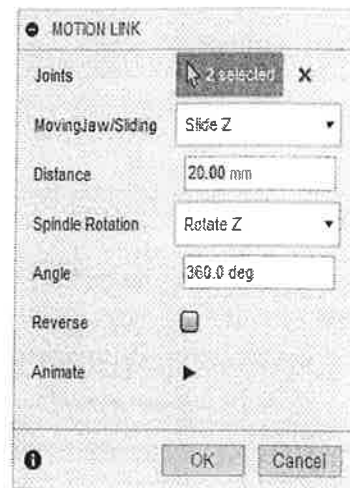

Figure 15–39
3. In the MOTION LINK palette, in the *Distance* field, enter **20.00 mm**, and in the *Angle* field, enter **360.0 deg**, as shown in Figure 15–39. This sets the motion so that for every 360° rotation, the MovingJaw moves 20 mm.